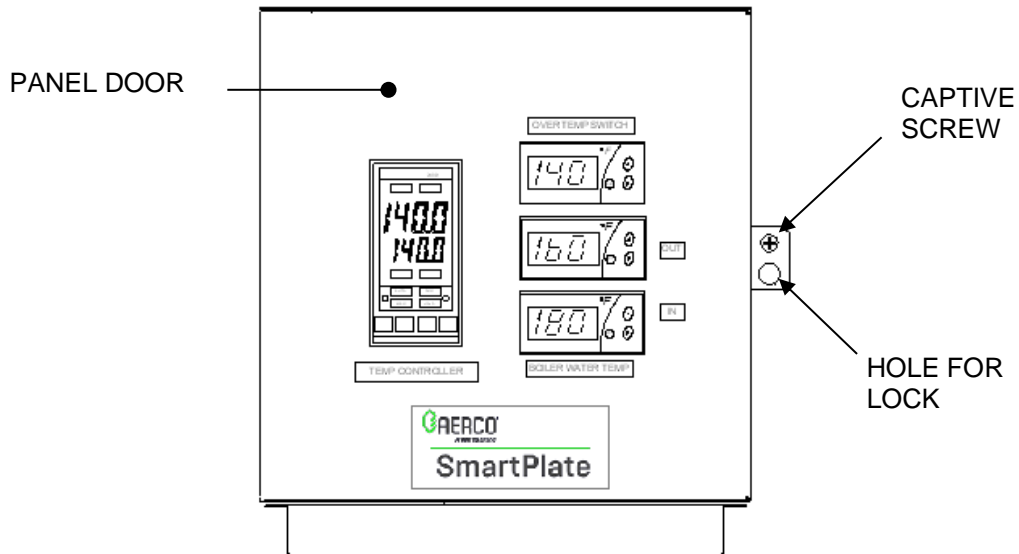

Figure 2-4. ECS/SP Control Box Front View
1. Loosen the captive screw on the right-front portion of the Control Box (Figure 2-4) to open the hinged panel door.